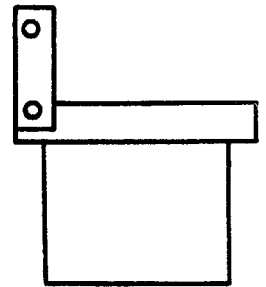

Fig. 1
2. Draw file $3 3/8"$ side flat. Check with Square. Light should not show through. Fig. 1